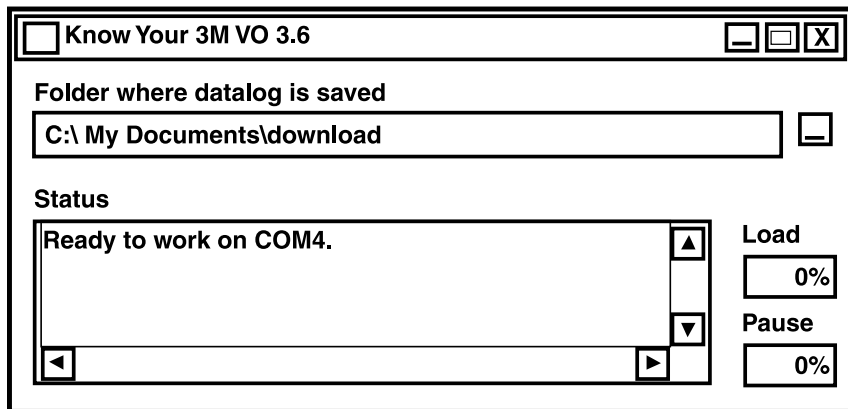

Fig. 35
1. Open the 740 Series Detector Data Manager Software Program (Fig. 35).